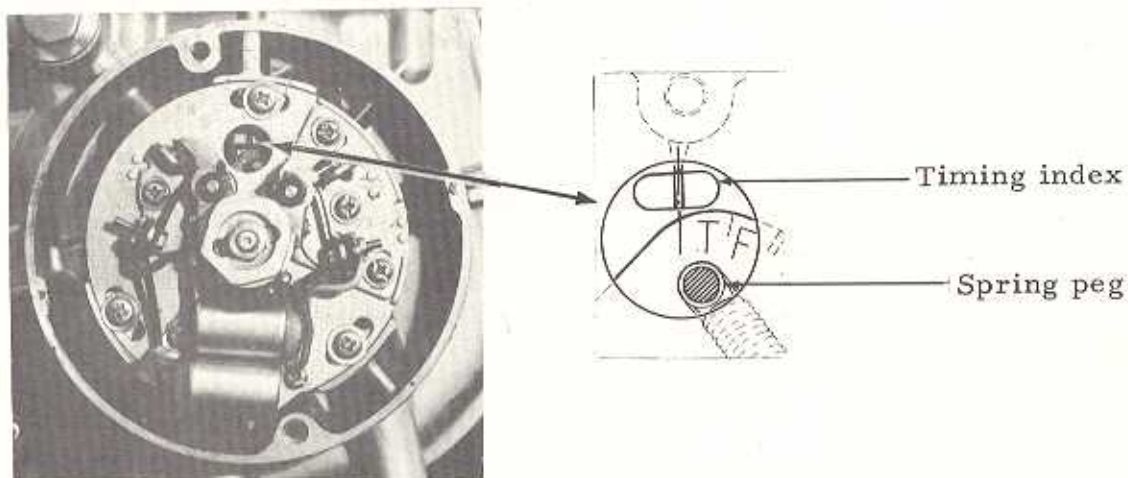

Fig. 1. Point cam position at 15° ATDC.
The CB-750 shop manual does not specify a recommended crankshaft position for adjusting the cam chain tensioner. For effective operation, the tensioner must be adjusted when the crankshaft is rotated to 15° ATDC of cylinders #1 and 4, immediately after cylinder #1 has fired (see Fig. 1).
4. Rotate the crankshaft clockwise until the spring peg on the advancer assembly at the 1.4 position is just to the right of a line from the timing index (see Fig. 1). This position is 15° ATDC 1.4.*